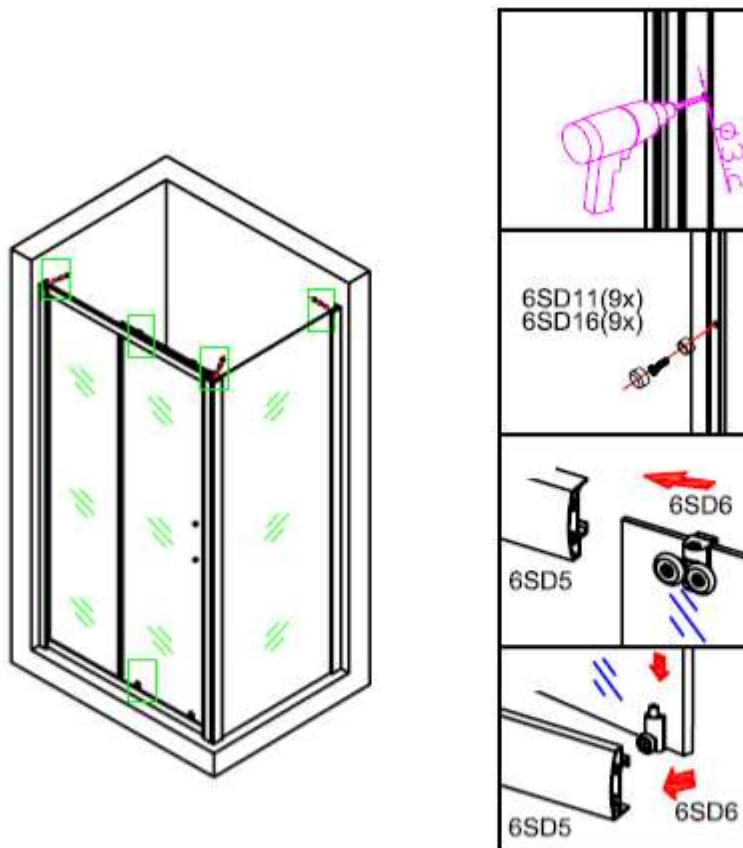

Figure 8
8. Fasten the wall profile with the fixed profile with screw (6SD11). Hang the top roller into the top rail profile and clip the bottom single roller into the bottom rail profile, as shown in figure 8.